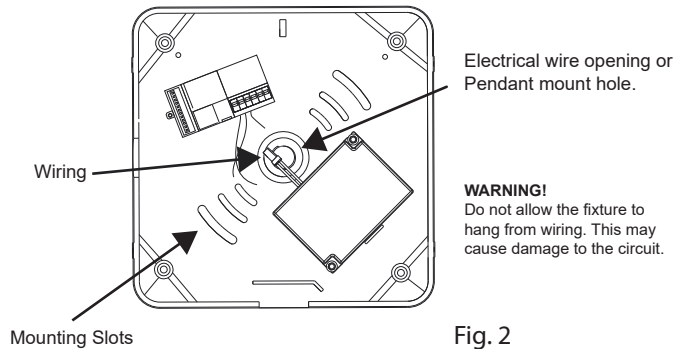

Fig. 2
2. Remove the necessary knockouts and mount the backplate to the junction box using the provided foam gasket and appropriate hardware (provided by others) for this application. (Fig. 2)